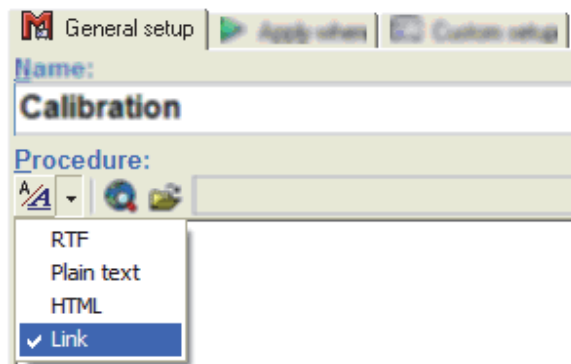

Figure 3-19. Selecting Link as Procedure Format
3. Click the arrow on the **Format** drop down button () shown in the toolbar just below the Procedure heading. Then click the **Link** menu as shown in Figure 3-19.